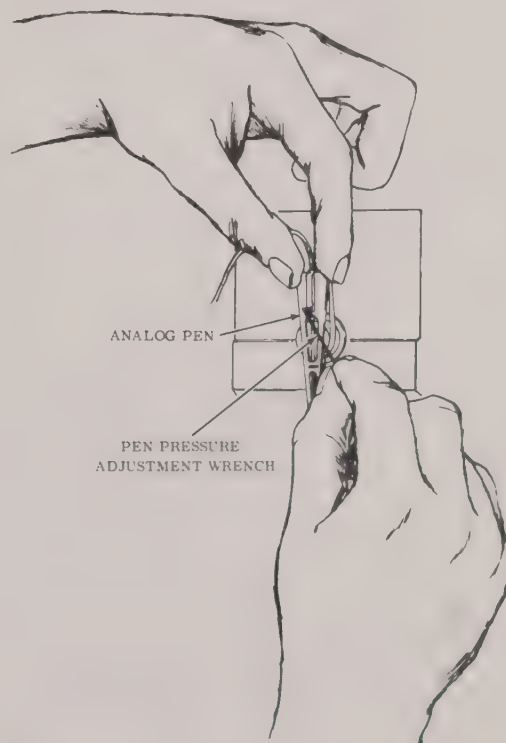

FIGURE 6-8 PEN PRESSURE ADJUSTMENT
1. Use pen pressure adjustment wrench (part number 1-120922-18) and turn adjusting screw (Fig. 6-8) clockwise to increase pressure or counterclockwise to decrease pressure.